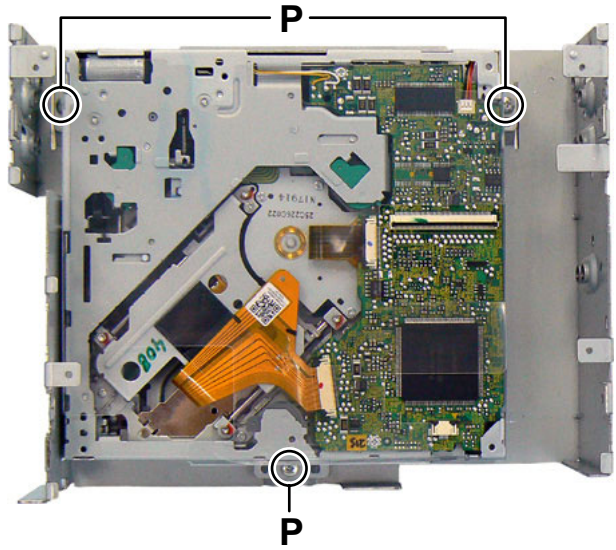

Fig.18
- (2) Remove the three screws **P** attaching the DVD mechanism. (See Fig.18)